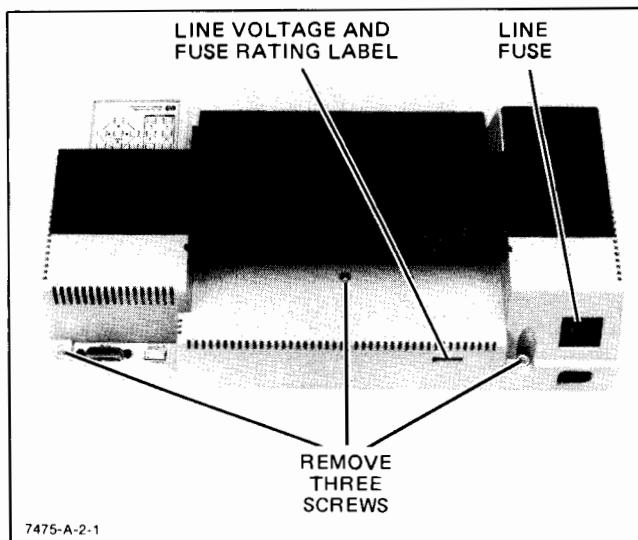

Figure 1-2. Top Case Removal
1-21. Line voltage selection, and the required fuse ratings for each line voltage setting, are specified on the line voltage label which is visible through the small recessed window in the rear panel. See Figure 1-2.
- a. Set the plotter LINE switch to OFF (O) and disconnect the line cord.
- b. Remove the plotter top case by removing the screws indicated in Figure 1-2. Lift the rear of the top case and the front will then release. When replacing the top case, make sure the PAPER HOLD lever extends through the case, and that the tabs inside the front of the top case align properly above and below the base plate.